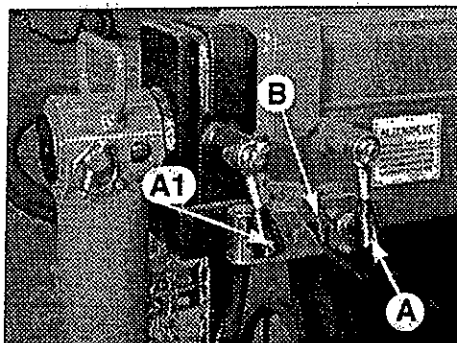

fig. 23
- Release the locking devices (of the first and second outrigger support) and stops positioning the levers **A**, **A1** and **B** from the position indicated on the fig. 23 to the one indicated on the fig. 24